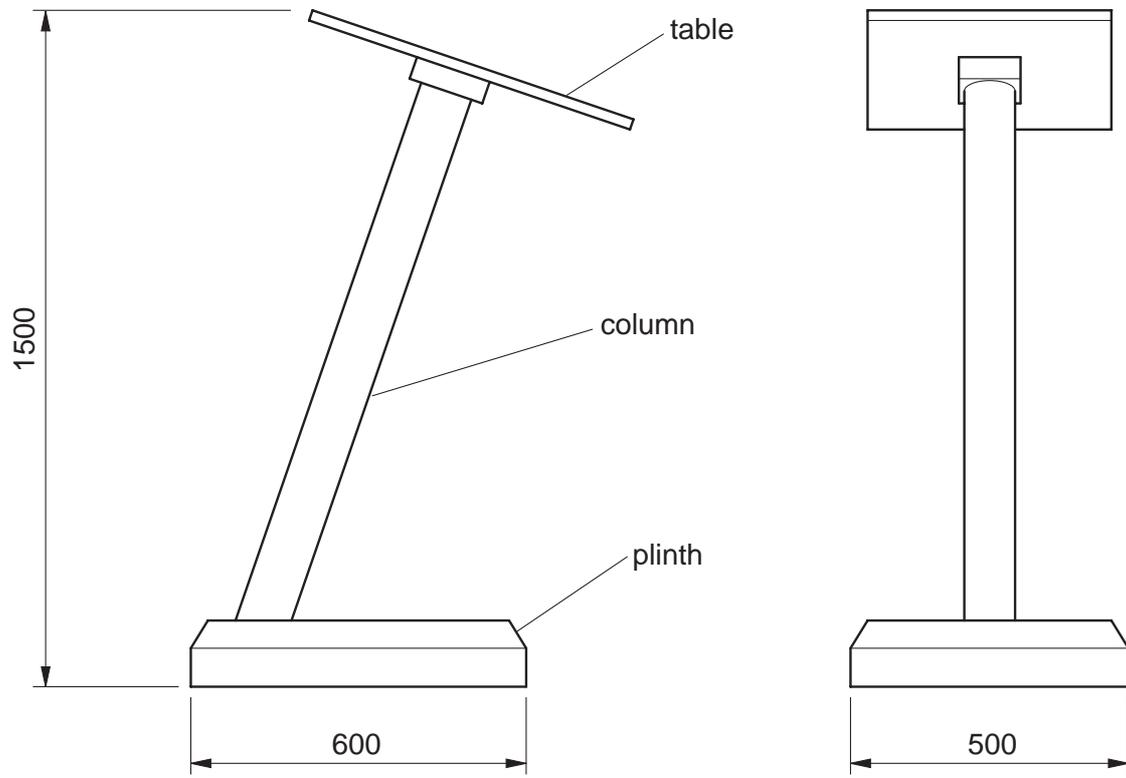

Fig. 4
- 7 Fig. 4 shows orthographic views of a lectern.